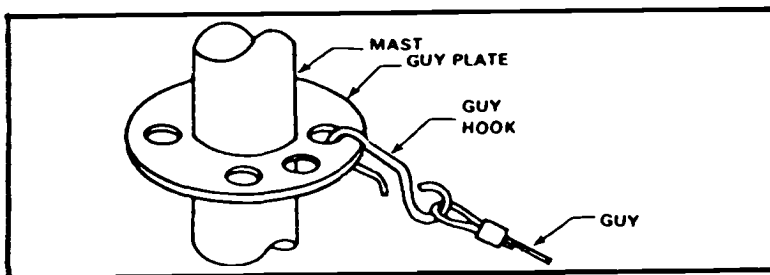

Figure 3-5. Attaching guy hooks to guy plate.
- Attach the hooks of the lower guy assemblies (color coded blue) to the lower guy plate (Figure 3-5).
- Attach the hooks of the upper guy assemblies (color coded red) to the upper guy plate (Figure 3-5).